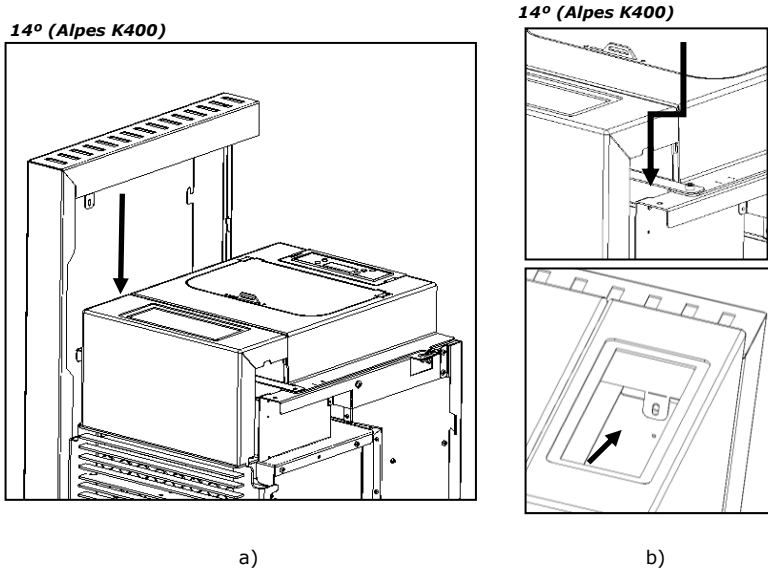

Figure 66 - Attach the tabs to the side frames
p) The upper tab r previously mentioned must pass between the finish front and the structure of the machine as shown in Figure 66. In the case of Alpes K300 Tab is not visible.